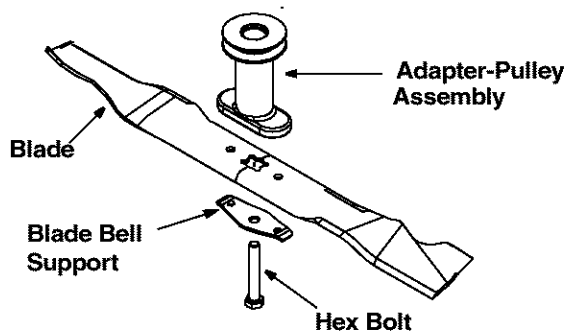

Figure 10
- Remove the hex bolt which holds the blade adapter-pulley assembly to the engine crankshaft. See Figure 10. Remove the pulley assembly and the bell support from the crankshaft.